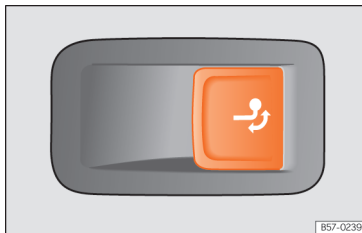

Fig. 219 On the right side of the luggage compartment: button for unlocking the tow hook.
- Pull the »» Fig. 219 button briefly. The tow hook unlocks electrically and automatically turns outwards. The button's control lamp flashes.
- Pull the »» Fig. 219 button briefly. The tow hook unlocks electrically.
- If the warning light on the button »» Fig. 219 → flashes, this means that the tow hook has not been attached properly or is damaged »» ⚠.
- If the warning lamp »» Fig. 219 → remains on with the rear lid open, the tow hook is correctly in place both when extracted and when covered.
- Never press the »» Fig. 219 button when there is a trailer hooked to the vehicle or when a carrier system or other accessories are mounted on the tow hook.